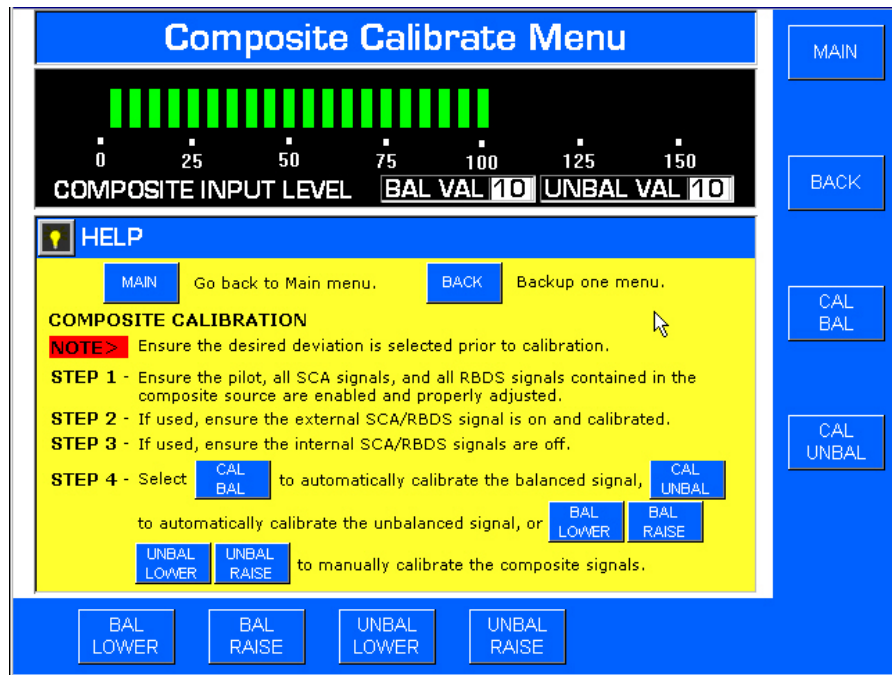

Figure 3-37. COMPOSITE CALIBRATE MENU
If a composite audio source is to be used with the FXi, the source must be calibrated (refer to Figure 3-37). This calibration procedure compensates for level variations in the source. To calibrate the composite source, proceed as follows:
3. Ensure the exciter is off the air and, from the Audio Input Menu, depress COMP CAL. The Composite Calibration Menu will appear (refer to Figure 3-37).